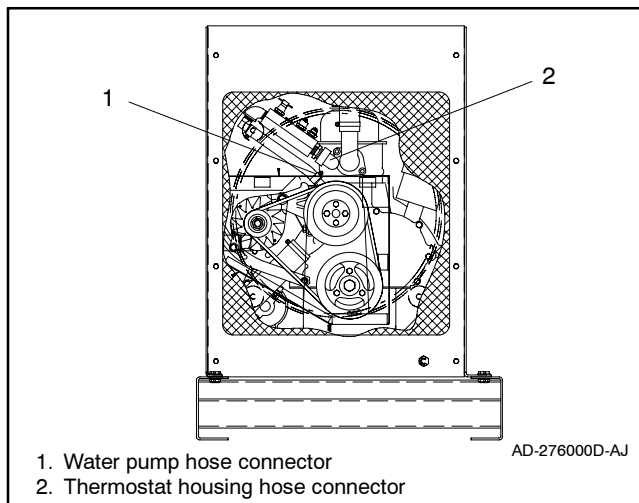

Figure 4 Thermostat Housing to Water Pump Hose Locations.
- 4.1 Locate the thermostat housing and loosen the hose clamp. See Figure 4.